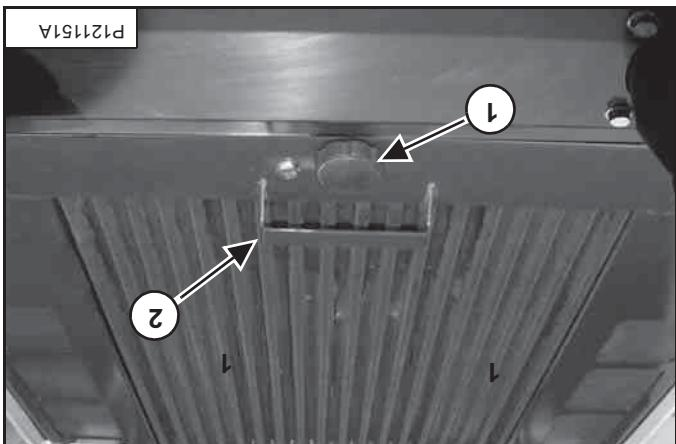

Figure 38
Remove the clamping knob (item 1). Lift using the handle to move from the loader (item 2) [Figure 38] and pull the rear grille backward to remove from the loader.
- Remove the clamping knob (item 1). Lift using the handle to move from the loader (item 2) [Figure 38] and pull the rear grille backward to remove from the loader.